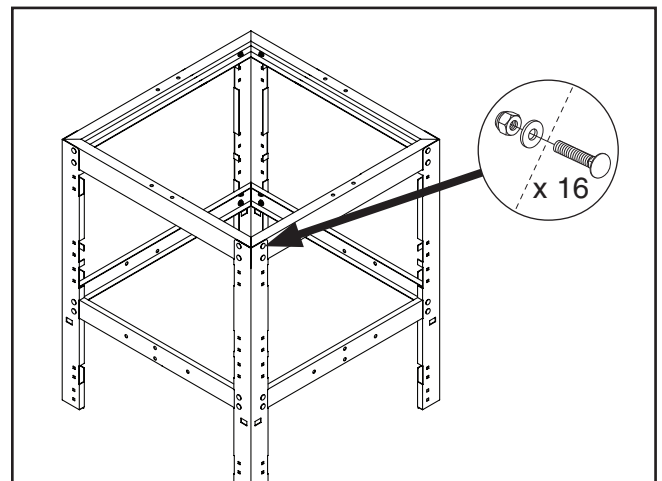

Figure 6. Upper braces attached to stand assembly.
3. Attach upper stand braces to top of assembly from **Step 1**, with (16) $\frac{5}{16}$ "-18 x $\frac{3}{4}$ " carriage bolts, $\frac{5}{16}$ " flat washers, and $\frac{5}{16}$ "-18 hex nuts (see **Figure 6**).